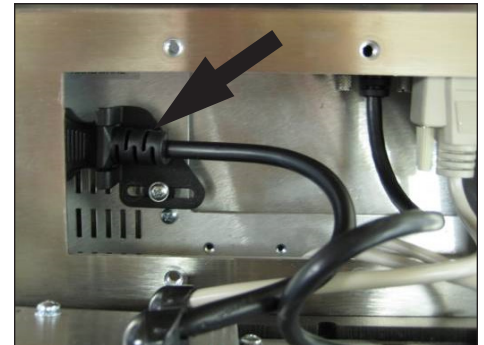

FIGURE 1
4.  Install the video cable from the KVM Remote Module into the monitor and secure the screw locks. Loosen the retaining clip for the power cable in the monitor's cable well and connect the power cable from the KVM Remote Module to the monitor. Retighten the retaining clip as shown in Figure 1.